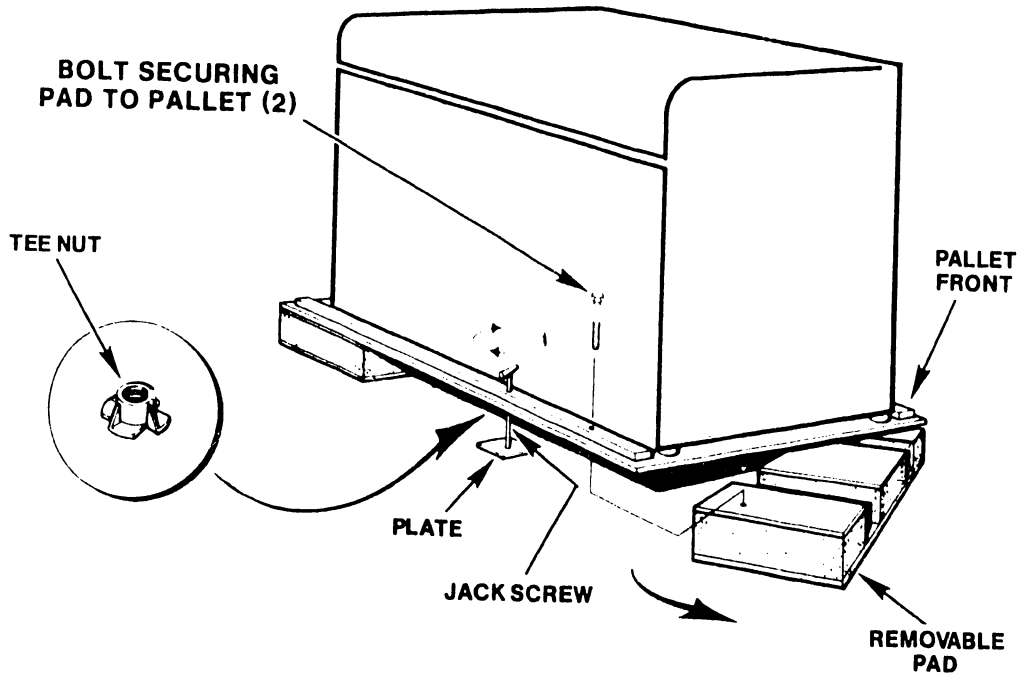

FIGURE 3-2 NEW SHIPPING PALLET WITH JACK-SCREWS IN PLACE
7. Using an adjustable wrench, remove the four bolts located under the pallet that secure the Mainframe to the pallet. (See Figure 3-2.)